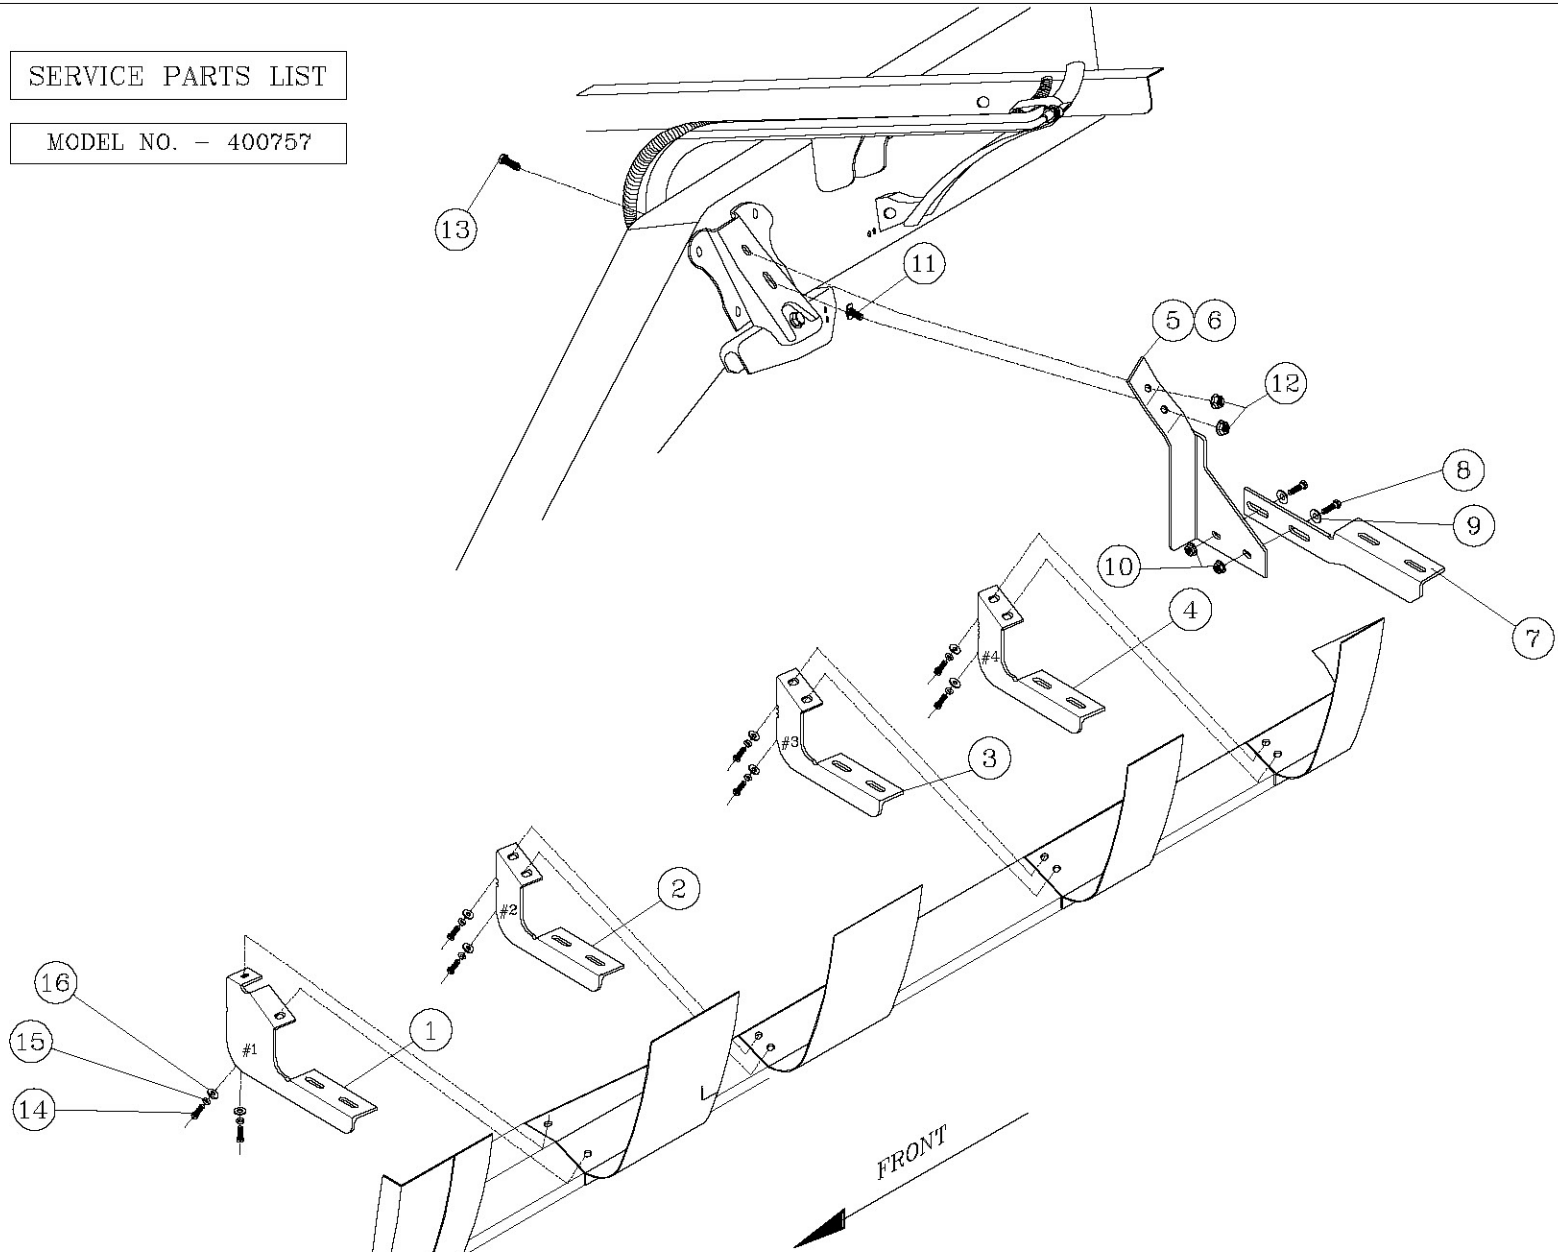

fig.1
2. ATTACH THE MOUNTING BRACKETS TO THE VEHICLE USING EXISTING MOUNTING HOLES ON THE INTERIOR WALL OF THE ROCKER PANEL. **(NOTE: THE BRACKETS MUST BE PLACE IN THE PROPER POSITION. THEY ARE IDENTIFIED WITH NOTCHES ON THE INBOARD EDGE. [1 NOTCH IS FOR #1 BRACKET, ETC.] #1 WILL BE AT THE FRONT OF THE VEHICLE. SEE FIG. 1).**